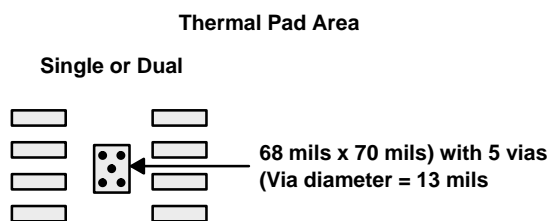

Figure 26. PowerPAD PCB Etch and Via Pattern
1. Prepare the PCB with a top side etch pattern as shown in Figure 26. There should be etch for the leads as well as etch for the thermal pad.